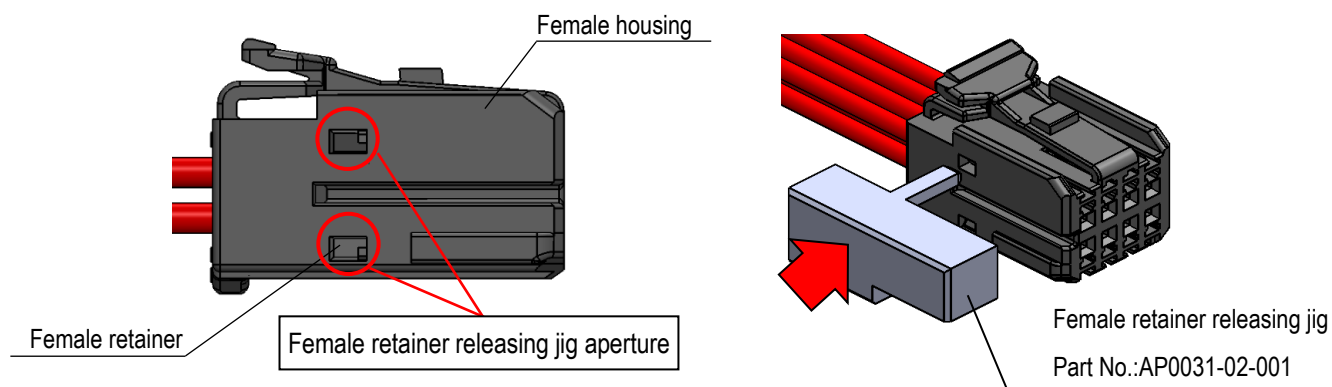

Fig.35 How to release the female retainer
- ① Place the female retainer releasing jig into the releasing apertures situated on the side of the housing (Pos. 1 side), and push out the retainer (see Fig.35).